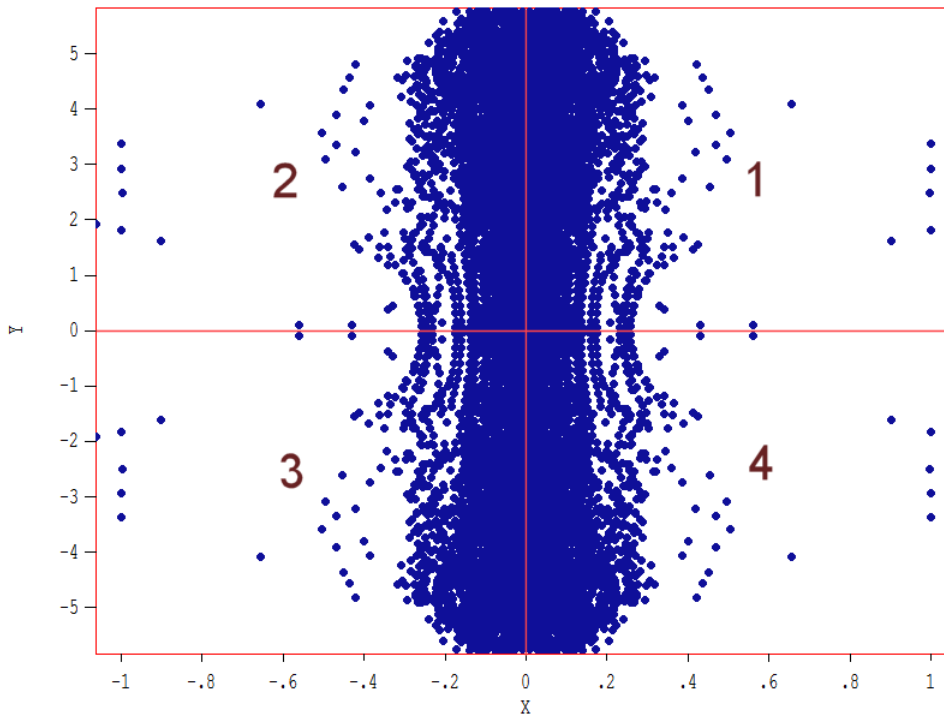

Figure 20: Mirroring a three-dimensional beam, definition of quadrants. The view is taken from the positive direction of the reference axis.
Figure 20 shows the quadrants for three-dimensional distributions relative to the reference axis. In a right-handed coordinate system, the horizontal and vertical coordinates in the graph are y - z for reference axis x , z - x for y and x - y for z . Use the check boxes in the dialog to show which quadrants should be included in the output PRT file. The default is to include all quadrants. The type of transformation depends on the choice of quadrants:
- If all quadrants are checked, then a particle in any quadrant is replicated in the other three quadrants. The most common application is to transform a distribution in Quadrant 1 so that it fills all four quadrants symmetrically (Fig. 20).